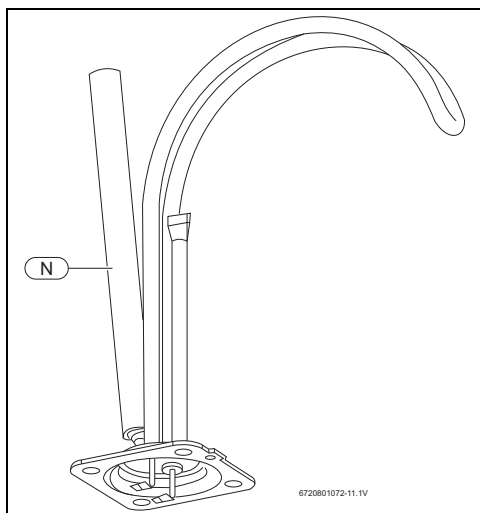

Fig. 13
The purpose of the anode rod (→ Fig. 13, [N]) is to protect the tank against corrosion. Tank corrosion can lead to a water leak that could result in property damage. Anode rods are consumable items, designed to corrode over time from the effects of minerals that occur naturally in water. Sometimes called sacrificial anode rods, they attract these minerals so that the tank is protected from them. Without a properly functioning anode rod, any glass-lined steel tank including this one will eventually leak.
- Remove and replace the anode rod (→Fig. 13 [N]).